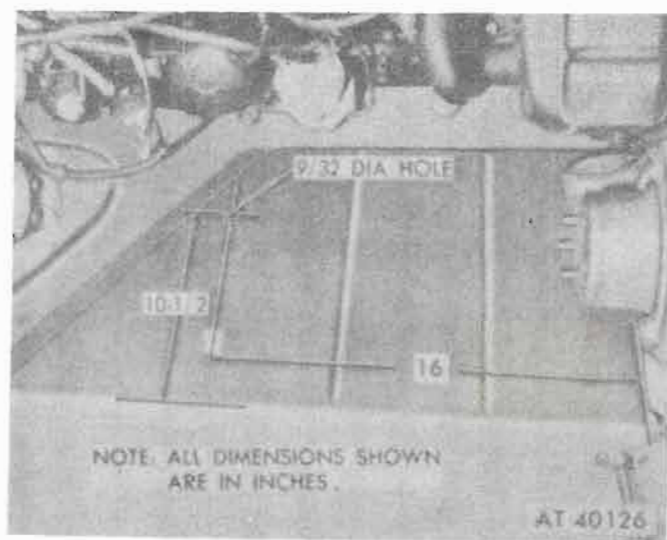

Figure 18-64. Right front fender apron drilling.
- c. Locate and drill a 9/32-inch diameter hole in right fender apron (fig. 18-64).